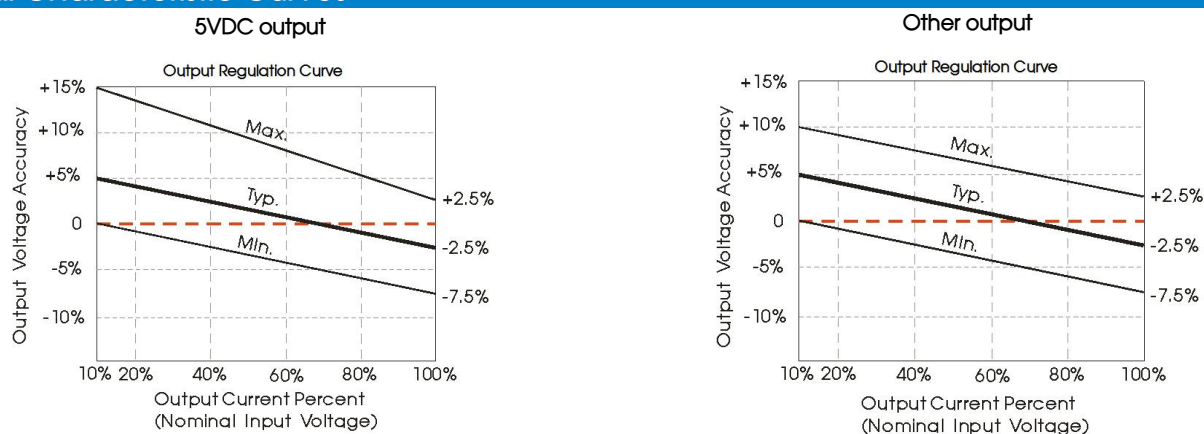

Fig. 1
| Voltage Accuracy ①         |                                 | See Typical Characteristic Curves (Fig. 1) |            |           |       |